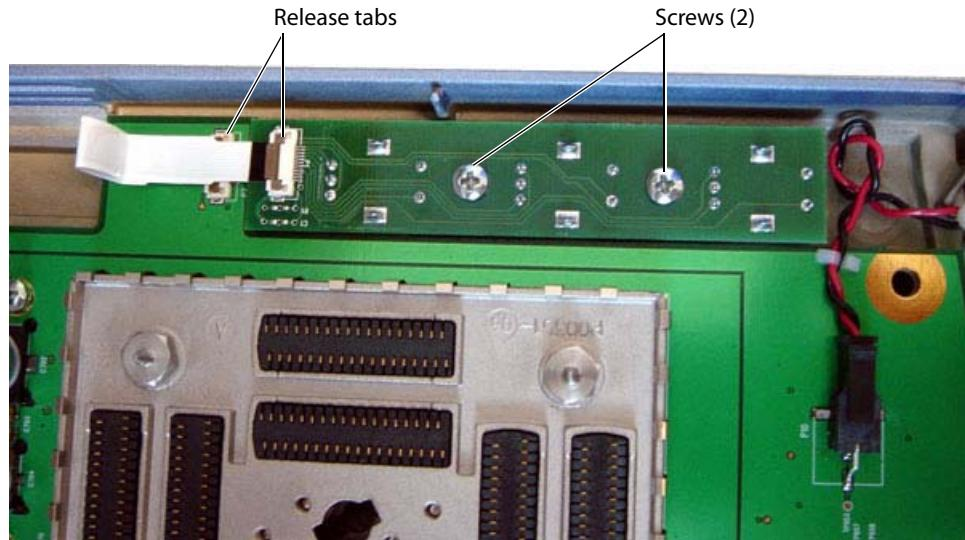

Figure 4.19 TGC PCBA Removal
- 3 Remove the flex cable from the TGC PCB by lifting on the flex release tab. See Figure 4.19.